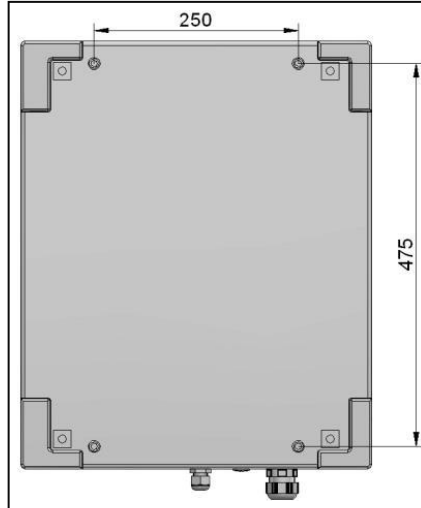

Fig. 5-4 Spacing of mounting holes
- Attach the transformer on the wall with four 8 mm screws. The spacing of the mounting holes is shown in Fig. 5-4.